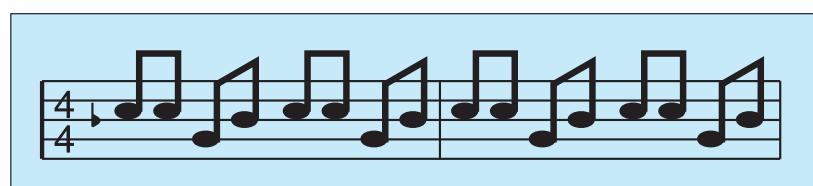

Figure 11: The same sequence written in traditional notation.
► immediately. It's the 'do-do de-de da-da de-de' bass line from thousands of best-forgotten disco hits inspired by Donna Summer's 'I Feel Love'. If you look at Figure 11 (also on page 200), you'll see that the configuration of the faders on the sequencer exactly mimics the notes as they would appear on a musical staff. The similarity is not surprising, given that the two systems use identical concepts for representing musical pitch.